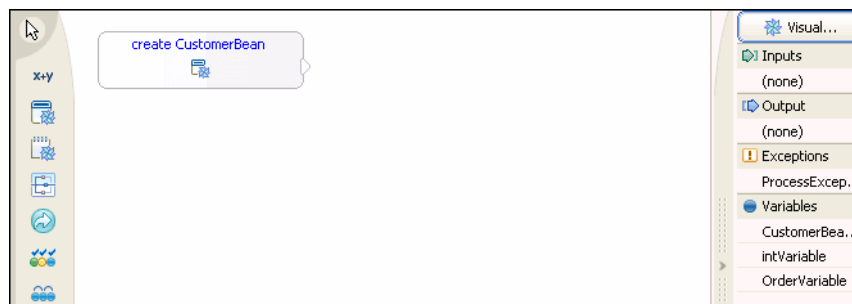

Figure 16-19 Visual Snippet: Placing the CustomerBean on the canvas
- ▶ The mouse pointer changes shape, which indicates that you are ready to place the object on the canvas. Click anywhere on the canvas and the snippet appears (Figure 16-19).